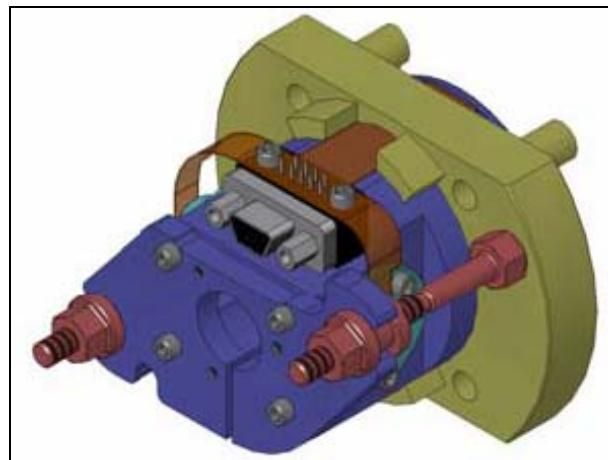

Figure 2 - Complete BOSEM assembly.
- Testing of the coil insulation as well as measuring the IRLED and PD currents, coil inductance and coil resistance of the fully-assembled BOSEM (see Figure 2) are conducted. These utilize a high voltage power supply and the ATE.